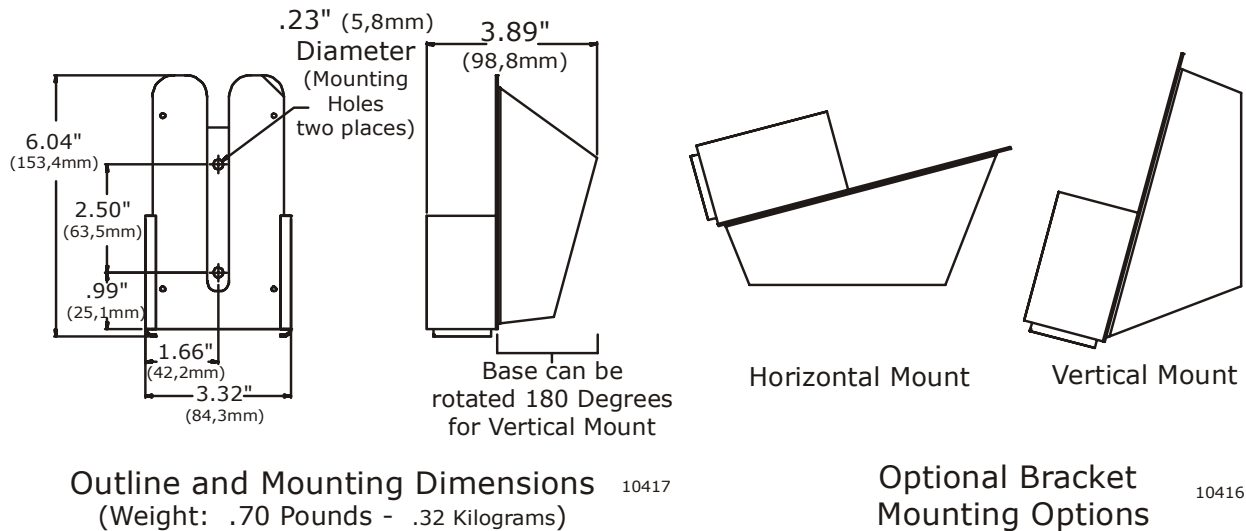

Figure 11: Optional Bracket Mounting
- Secured in a holding bracket (refer to Figure 11:, page 13)
Refer to “Figure 11:” on page 13 for optional Bracket Mounting Dimensions. It is recommended that the Handheld is stored in a Bracket Mount to protect the Handheld from damage when not in use.